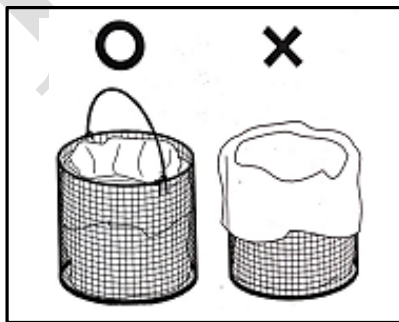

Fig.10
- Be sure to fold back the mouth of the bag inside of stainless wire basket (fig.10).